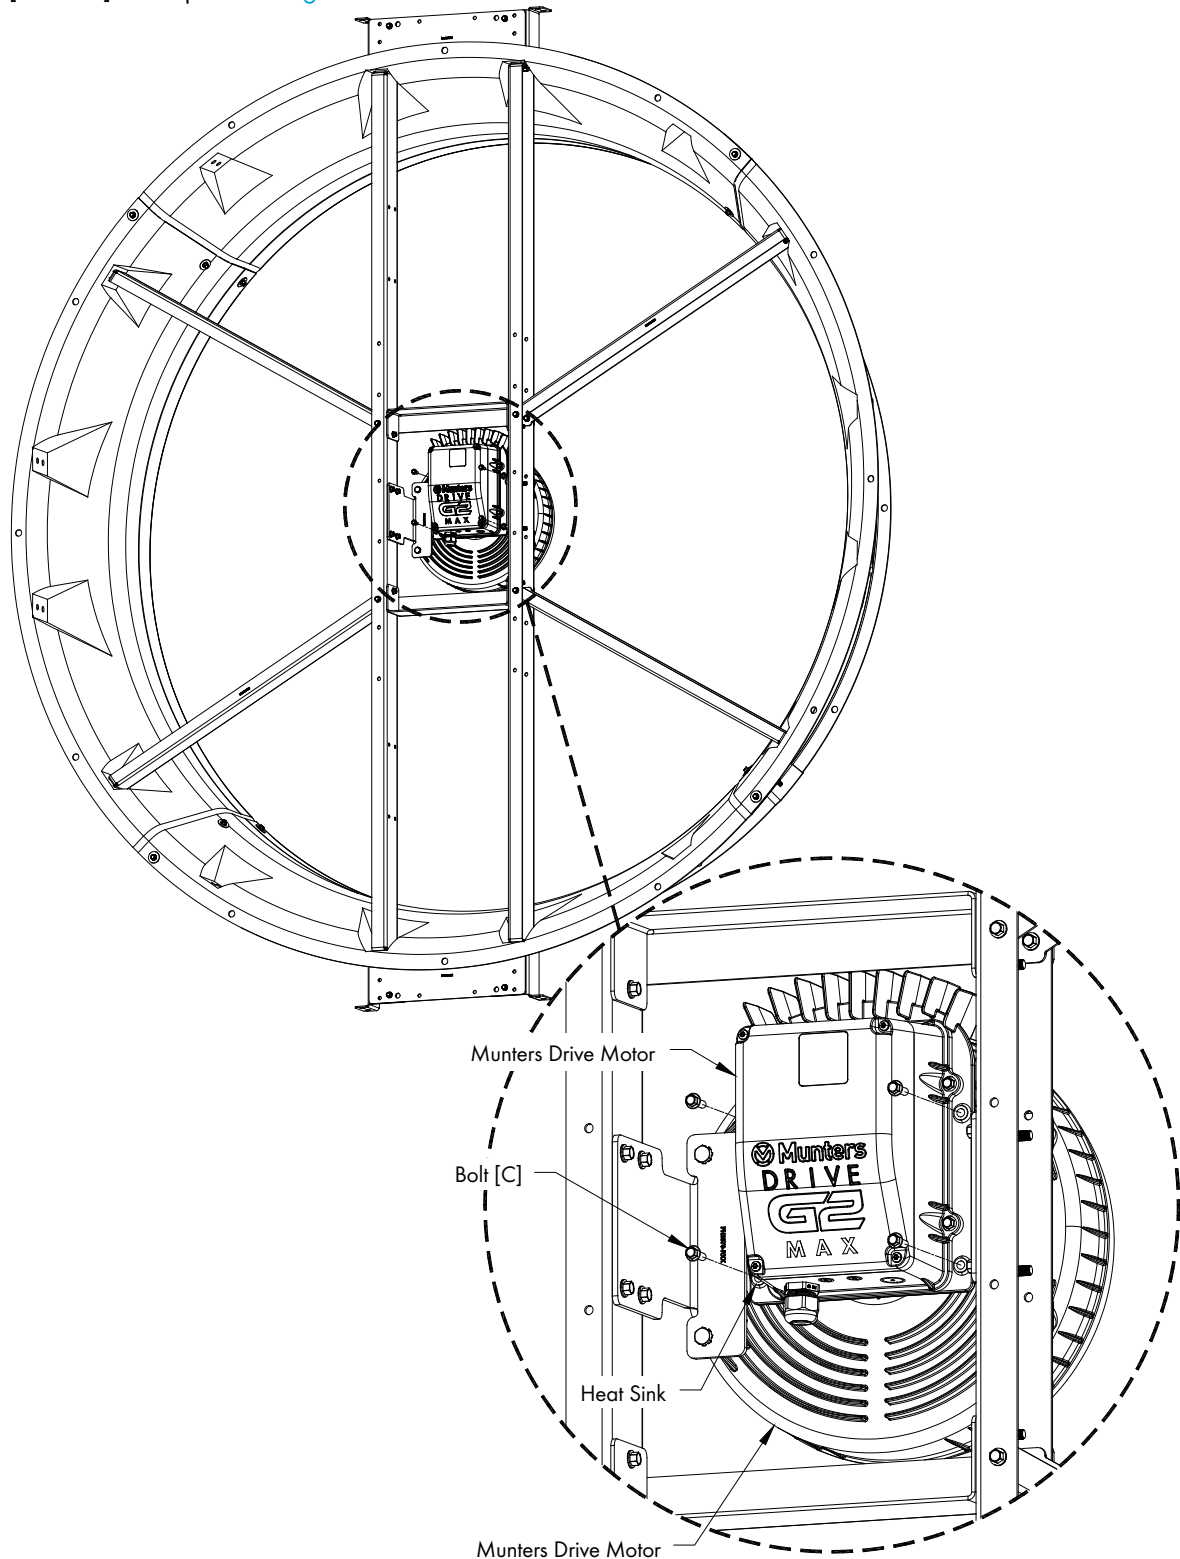

Figure 22
Align the Wiring Entrance and (4) mounting holes in the Heat Sink with the Wiring Entrance and (4) mounting holes in the back of the Munters Drive Motor and secure in place with (4) Bolts [C]. Tighten Bolts to 60 in-lbs. [6.8 Nm] of torque. See Figure 22.